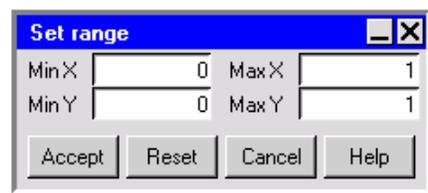

Figure 10.5.7: The Set range Panel
- To set the minimum and maximum values for the scales on the axes, click on **Set range**. This will open the **Set range** panel (Figure 10.5.7). Enter values for **Min X**, **Min Y**, **Max X**, and **Max Y** and click **Accept**.